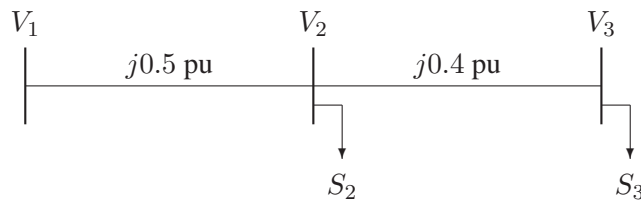

FIGURE 32
3.16. The one-line diagram of a three-phase power system is as shown in Figure 32. Impedances are marked in per unit on a 100-MVA, 400-kV base. The load at bus 2 is $S_2 = 15.93 \text{ MW} - j33.4 \text{ Mvar}$, and at bus 3 is $S_3 = 77 \text{ MW} + j14 \text{ Mvar}$. It is required to hold the voltage at bus 3 at $400\angle 0^\circ \text{ kV}$. Working in per unit, determine the voltage at buses 2 and 1.